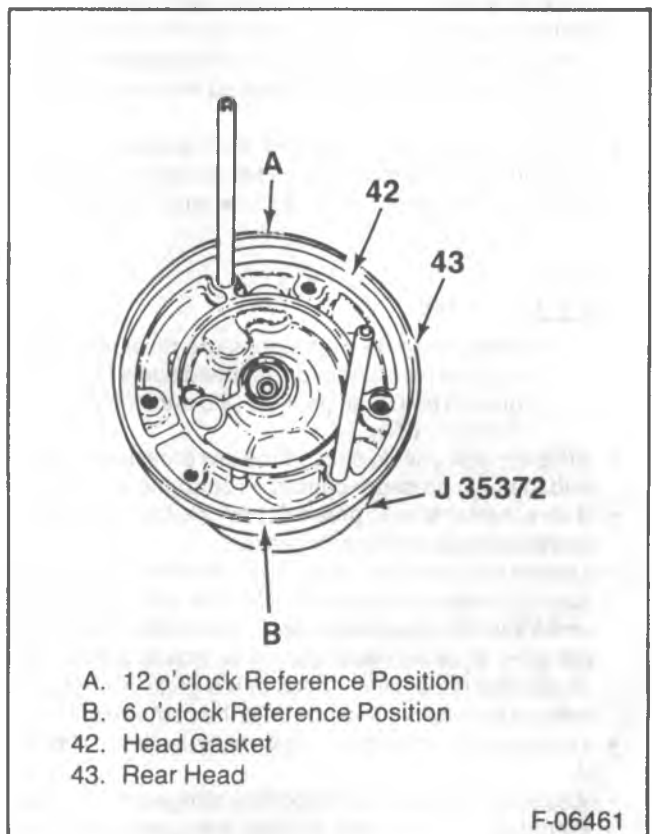

Figure 27—Installing the Rear Head Gasket
2. Gasket (42) (figure 27).
3. Rear valve plate (41).
4. Suction reed plate (40).
5. Seals (39 and 37) to the shaft and cylinder body (38) grooves.
6. Shaft and cylinder body (38) to the rear head (43).